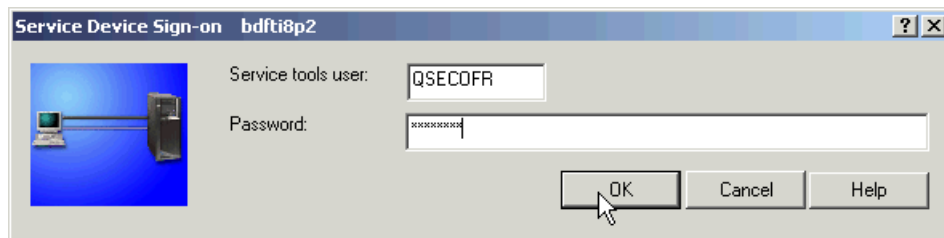

Figure 18-9 SST Signon
- You will be asked to sign on to SST as shown in Figure 18-9. Enter your Service tools ID and password and press **OK**.